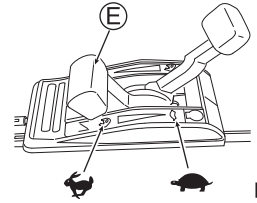

Fig. 13
- Confirm that there is no person behind you when pulling Starter knob (V).
- Securely grab Starter knob (V) when you pull it.
- Return Starter knob (V) slowly.
- 5 Warm up the machine before use. After the engine has warmed up, start mowing by setting Throttle lever (E) to "S". (See Fig. 13)